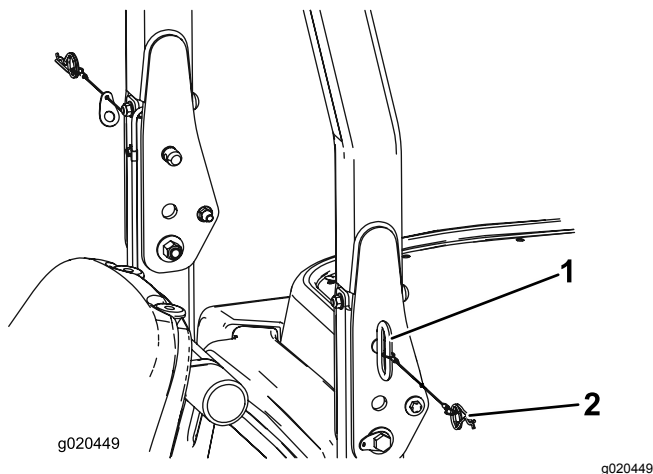

Figure 55
1. To lower the roll bar, remove the hairpin cotters and the two pins (Figure 55).